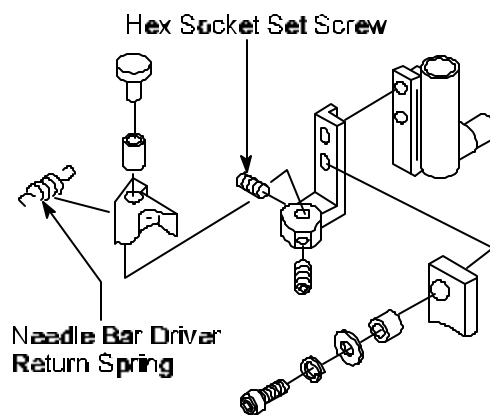

Figure 3
- Remove** Needle Bar Driver Return Spring. See *Figure 3*.
- Using a 2 mm Allen Wrench, **loosen** remaining hex socket set screw. See *Figure 3*.